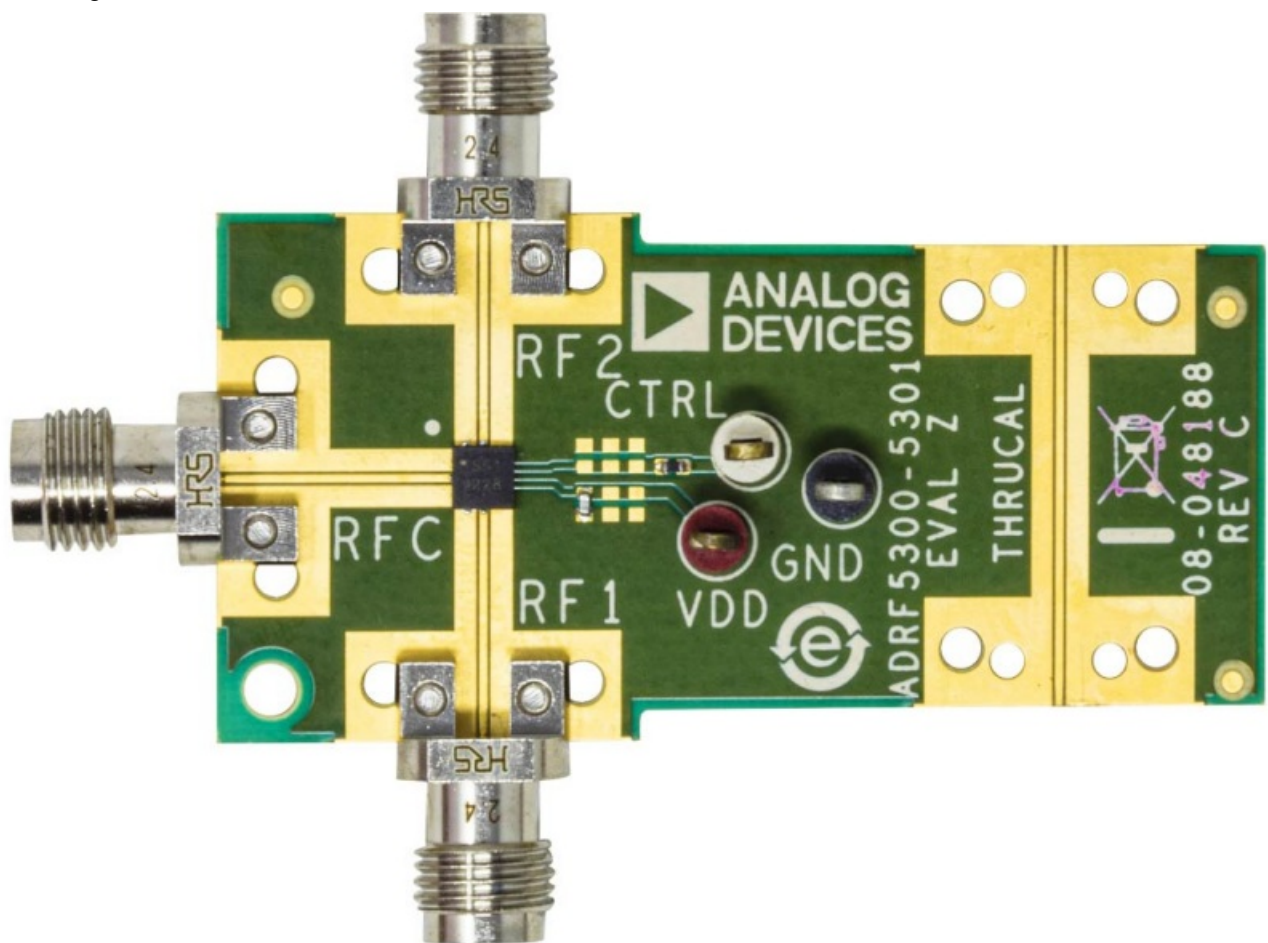

Figure 1. Evaluation Board Photograph
- Figure 1. Evaluation Board Photograph (not provided)
- The ADRF5301-EVALZ is designed to evaluate the features and performance of the ADRF5301 silicon, SPDT, reflective switch, which has a frequency range of 37 GHz to 49 GHz. The ADRF5301-EVALZ (see Figure 1) is populated with a 2.4 mm connector.